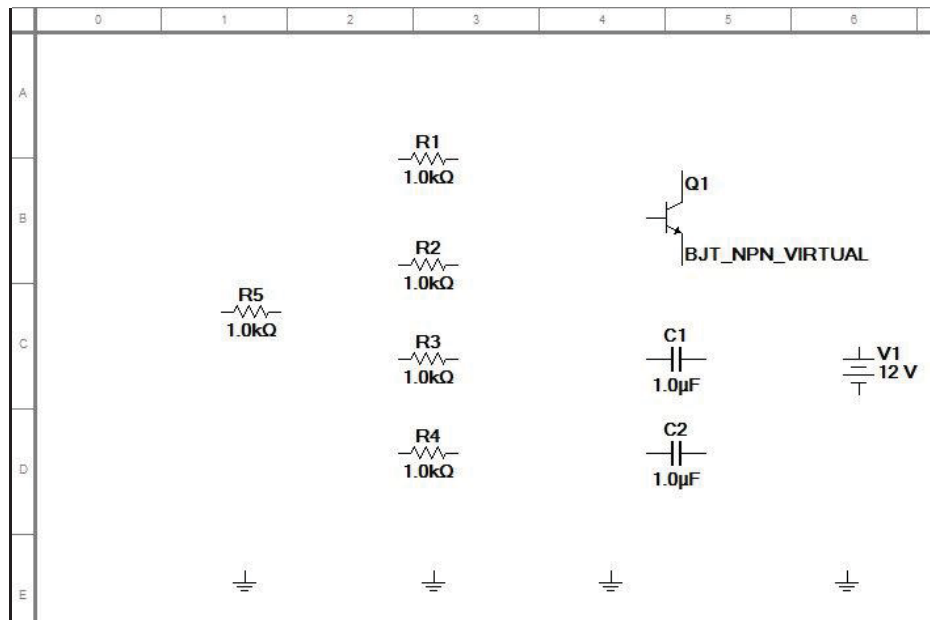

Figure 12
4. By now you should be getting the hang of placing components. Go ahead and place the following components on your workspace; 1-DC voltage source, 2-Capacitors, and 4-Ground Symbols. When you are finished your workspace should look like Figure 12.